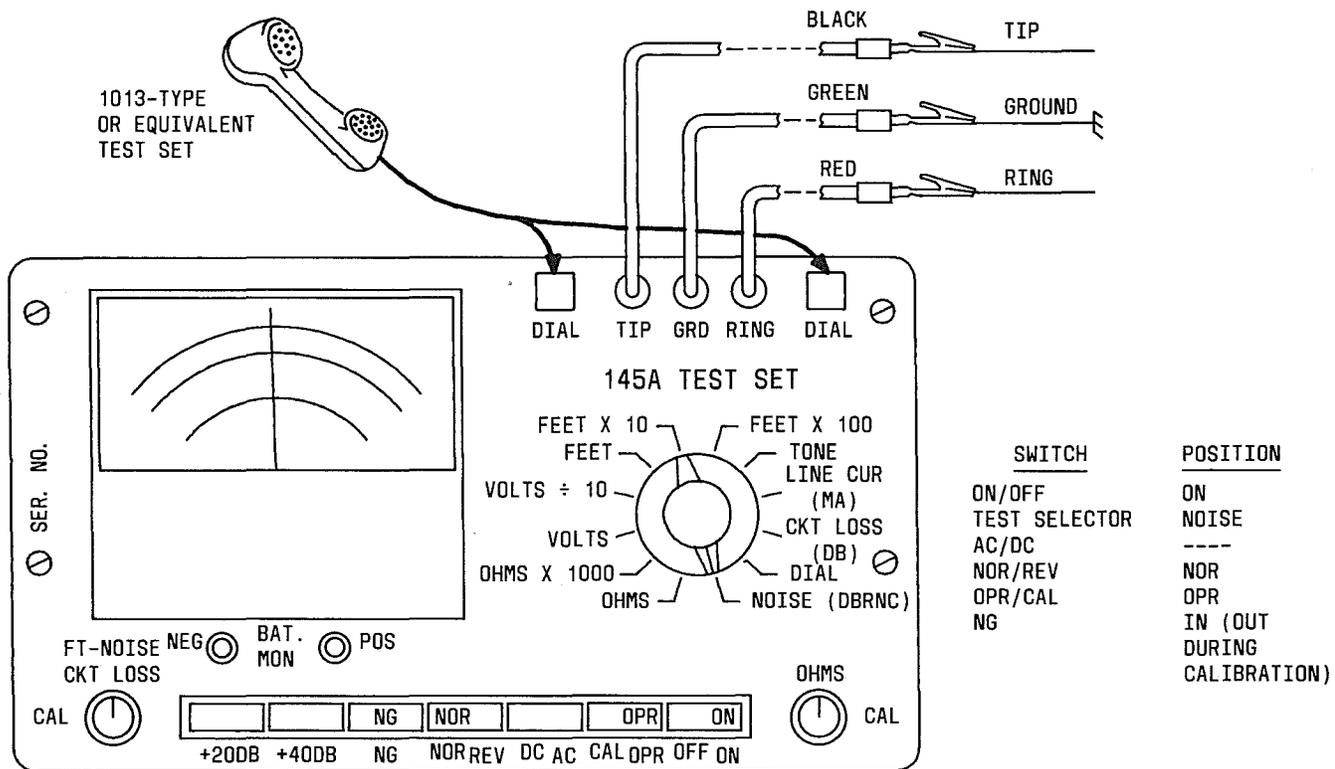

Fig. 14—Longitudinal Noise Measurement
B. Noise Longitudinal (Noise to GRD) Measurement Test (Fig. 14):
- (1) Turn selector knob of 145A test set to NOISE (DBRNC) position.
- (2) Connect ground lead to cable sheath or building ground and the tip and ring test leads to pair being tested.
- (3) Calibrate meter as follows:
- (4) Turn selector knob to DIAL position.
- (5) Connect cord clips of 1011- or 1013-type test set to terminals marked DIAL.
- (6) Place NOR/REV switch in NOR position and CAL/OPR switch in OPR position and dial up the CO quiet termination.
- (7) When ringing stops, turn selector knob to NOISE (DBRNC) position.
- (8) Depress NG switch and read noise to ground on DBRNC scale of meter.